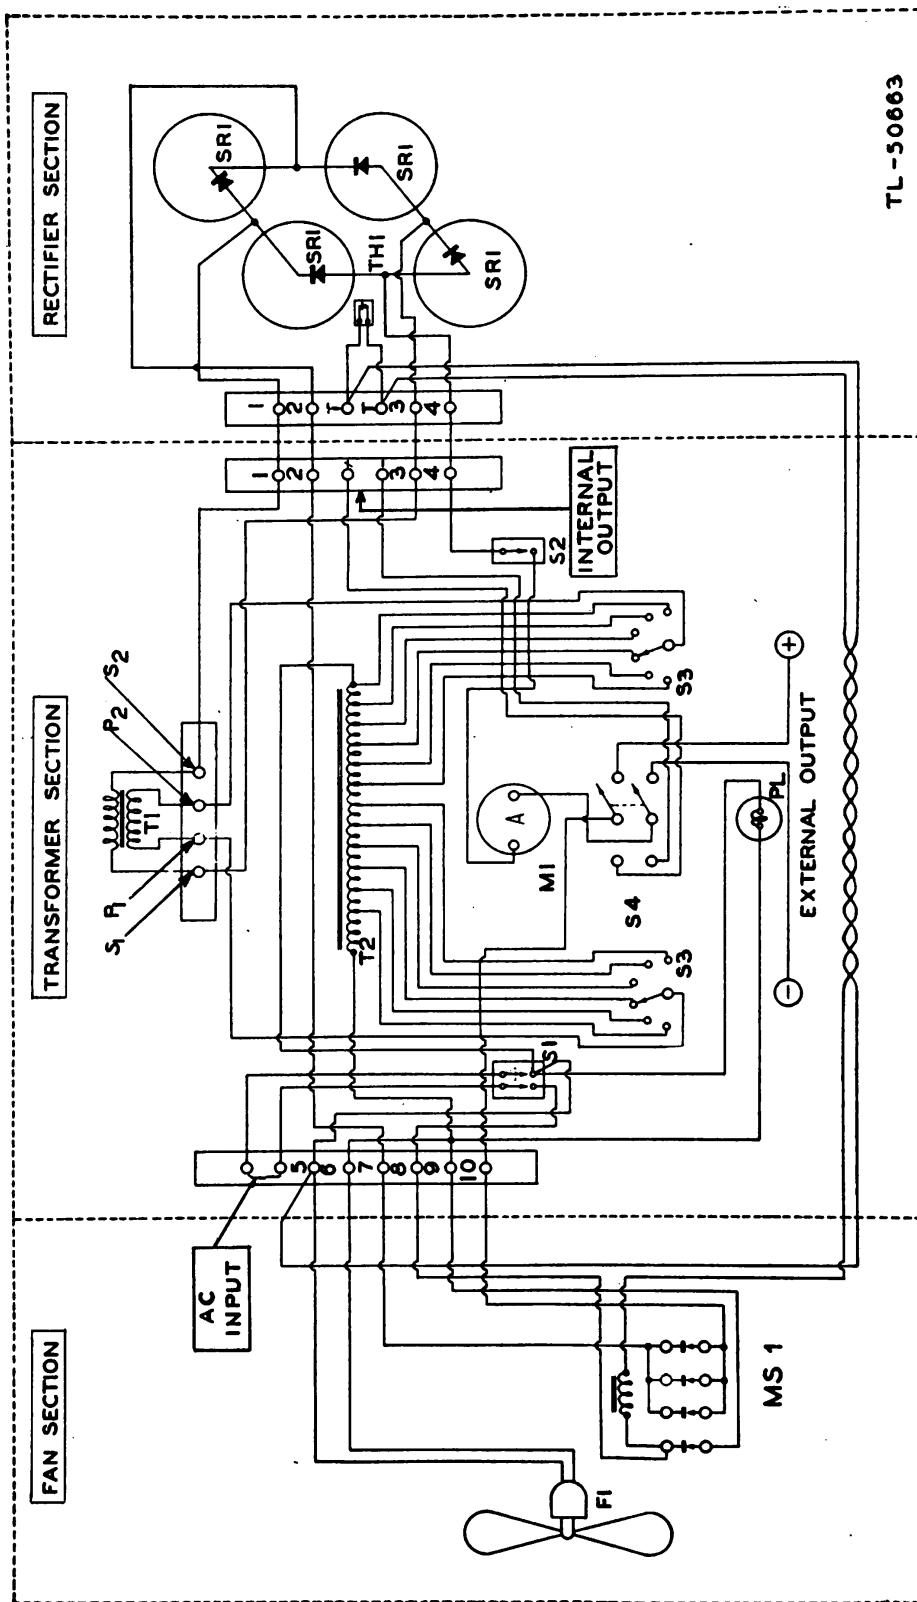

Figure 3. Rectifier Power Unit PP-34/MSM, schematic diagram.
**8. CIRCUIT.** The schematic diagram of Rectifier Power Unit PP-34/MSM is shown in figure 3.
**10. RECTIFIER.** Rectifier SR1 consists of four rectifier stacks, made up of selenium rectifying disks. They are assembled so that current can flow readily in one direction, but practically not at all in the other direction. The rectifier stacks are connected together in the form of a diamond, commonly called a bridge circuit, giving full-wave rectification. The rectifier changes the alternating current to pulsating direct current for charging storage batteries. The rectifier stacks are protected against overheating by a thermal switch TH1 (fig. 3) which opens the circuit-breaker.
*a.* An ohmmeter may be employed for continuity testing. When using an ohmmeter, it is important that all sources of power be disconnected from the equipment to be tested. Resistance values across transformer T1 and autotransformer T2 (fig. 3) are small, ranging from a fraction of an ohm to 2 or 3 ohms. Resistance values across the selenium rectifier stacks will be a few ohms or several thousand ohms, depending on the polarity of the test leads from the ohmmeter, as applied to the terminals of the rectifier stack.
*b.* The following data is useful in checking the rectifier circuits. All measurements were taken at the secondary winding, S1 and S2, of power transformer T1 (fig. 3). Voltage readings in the following table were taken with a 115-volt input and no load on the equipment. Tap switches S3 (fig. 3) are set at extreme counterclockwise position for initial reading, and are rotated clockwise for successive readings.